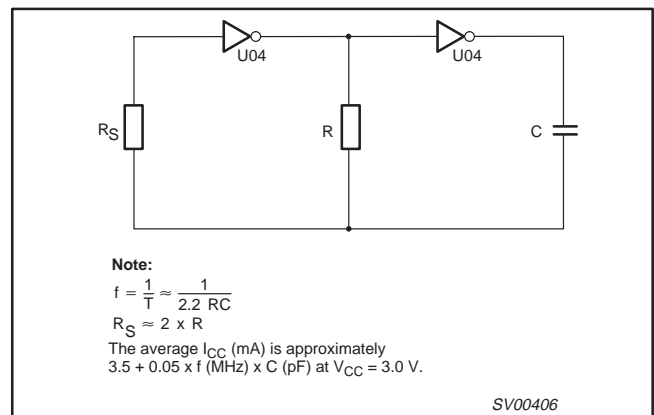

Figure 6. LVU04 used as an astable multivibrator.
- Astable multivibrator (see Figure 6)
**Note to Figure 6**